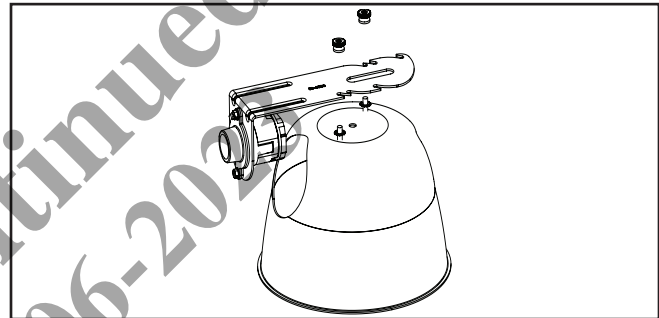

Figure 3.
- Attach trim to socket assembly with (2) thumb nuts. Lockwasher to be placed between reflector and socket assembly. (Figure 3.)